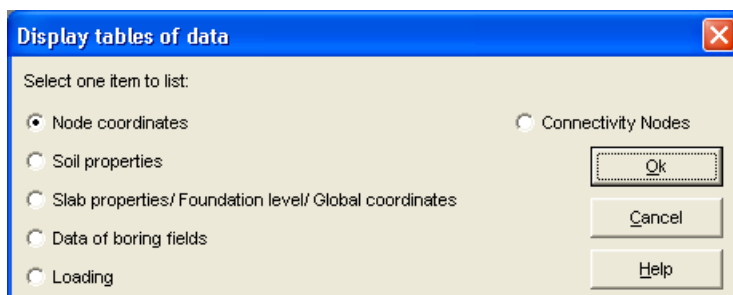

Figure 1-44 "Display tables of data" option box
- Choose "Display tables of data" command from "List" menu. The following option box in Figure 1-44 appears